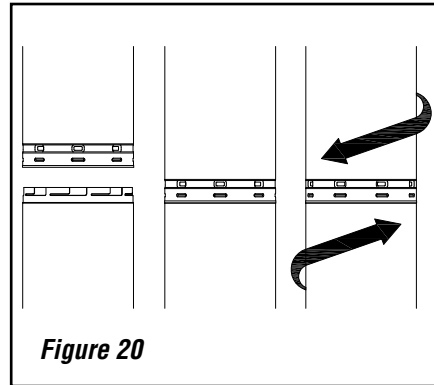

Figure 20
8" DV Lock (8DVL) direct-vent system components are unitized concentric pipe components featuring positive twist lock connections (see **Figure 20**).
Push the vent component against the previous section until it fully engages, then twist the component clockwise, running the dimples down and along the incline channels until they seat at the end of the channels. **This seating position is indicated by the alignment of the arrow and dimple as shown in Figure 20.**
At any transition to or from a horizontal/inclined run, install the 8DVLE45 and 8DVLE90 corrugated elbows in the same manner as the straight vent sections. Fully engage the inner and outer unitized pipes at the bottom of the elbow. Rotate the elbow in the desired direction. **NOTE:** Three (3) holes are provided at the bottom of the elbows. Secure the elbow in place with a minimum of two (2) self tapping screws. The top of the elbow will connect to straight lengths of 8" DV Lock pipe by twist-locking the pieces together. (see **Figures 20 and 22**).
8" DV Lock pipe applications are shown in the illustrations. **8" DV Lock** direct-vent system components are unitized concentric pipe components featuring positive twist-lock connection (see **Figure 20 on Page 21**). The appliances covered in this document are fitted with collars having locking inclined channels. The dimpled end of the vent components fit over the appliance collar to create the positive twist-lock connection.
To attach a vent component to the appliance collar, align the dimpled end over the collar, adjusting the radial alignment until the four locking dimples are aligned with the inlets of the four incline channels on the collar (see **Figure 20 on Page 21**).
Push the pipe sections completely together, then twist lock one section clockwise approximately one-quarter turn until the two sections are fully locked (see **Figure 20**). Indentations on the female end of black painted pipe and fittings will not be visible unless by examining the inside of the female ends.